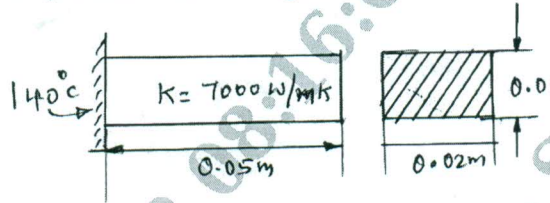

Fig.Q7(b)
b. Determine the temperature distribution in the rectangular fin as shown in Fig.Q7(b). Assume steady and only conduction process. Take heat generated inside the fin as 400W/m^3 . (06 Marks)